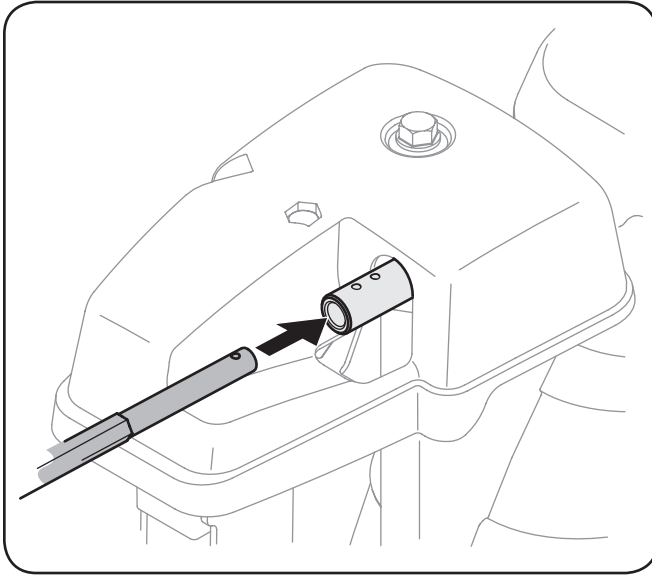

Figure 3-4
2. Insert hex rod into chute control head. Push rod as far into chute control head as possible, keeping the holes in the hex rod pointing upward. See Fig. 3-4.